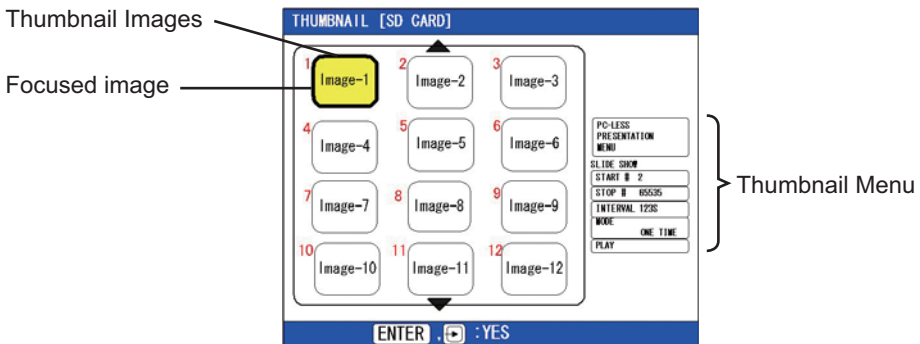

Fig. 4.2.1. Thumbnail display
Fig.4.2.1 shows thumbnail display. Click [THUMBNAIL] button in the Web Remote Control to display menu on the screen in order to make thumbnail display. You can also display thumbnail by remote control or keypad (53).